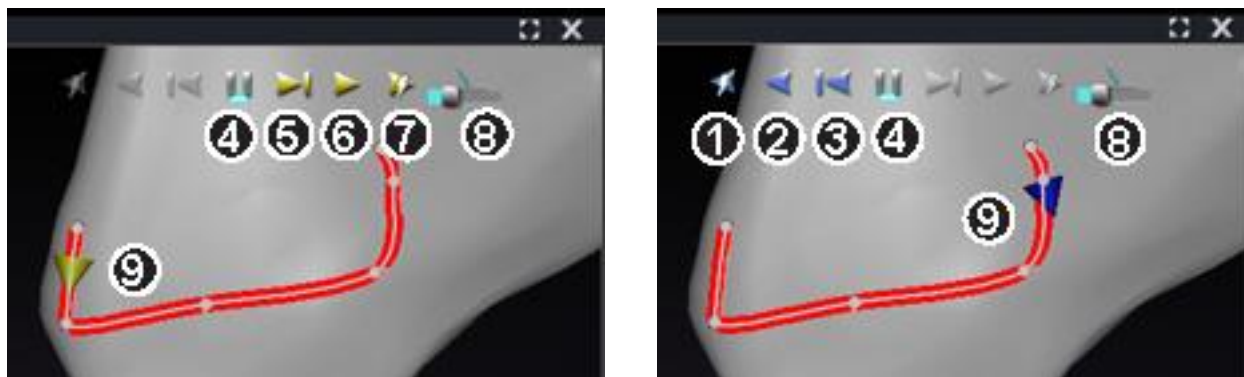

Figure 158. Left: Auto-NaviLine at beginning; Right: end of NaviLine design line
You will see context-sensitive controls at the top of the window when you select a completed *NaviLine* design line, as in **Figure 158**. In addition, only if your system is set up so that Auto-NaviLine is enabled will buttons ① and ⑦ appear as shown in the following figures.
Because the target cone (**Figure 158, left**) is currently at the beginning of the line, the “Backward” buttons are disabled. The Pause button is highlighted (blue underline) because no targeting is active. The opposite is true in the right figure, where the target indicator is at the end of the line and the “Forward” buttons are disabled.
Auto-NaviLine tools guide (Figure 158)